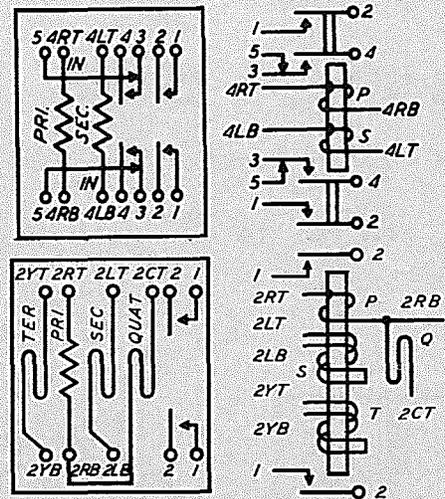
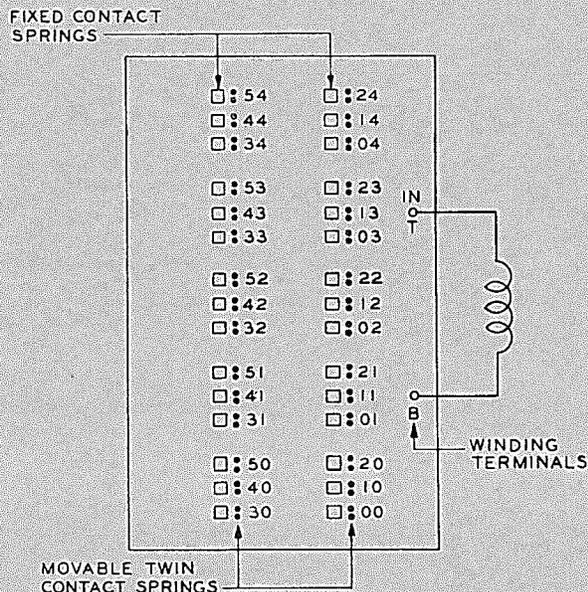

Fig. 2 - Winding and Spring Terminal Arrangement as Viewed From the Rear (Terminal Side) - A-, E-, F-, H-, M-, R-, T-, AB-, EA-, and 236-type Relays
Fig. 74 - Winding and Contact Spring Arrangement as Viewed From the Front (Contact Side) 286-type Relay
1.002 The addendum is reissued to include the 286-, 287-, and 288-type relays and to add Figs. 74 to 78, inclusive. It also covers revisions in the information on winding terminal numbering for A-, E-, and similar-type relays and revision of Figs. 2 and 11.
- (b) Figs. 2 and 11 - revised ←
- (e) 2.73 to 2.75 and Figs. 74, 75, 76, 77, and 78 - added ←
(1) As viewed from the front of the relay, there are 30 make contact positions arranged in two vertical rows of 15 positions each. Each vertical row is divided into five groups of three positions each. Each position has a single fixed contact spring and associated movable twin contact springs. The movable twin contact springs are at the right of their associated fixed contact springs. The contact arrangement and the numbering of the contact springs are shown in Fig. 74.
(2) Referring to the figure, all contact positions are designated by 2-digit numbers. The five groups of three contact positions in both vertical rows are numbered from 0 to 4 starting at the bottom. These numbers appear as the second digit in the designations of each of the three contact positions in the respective groups. L